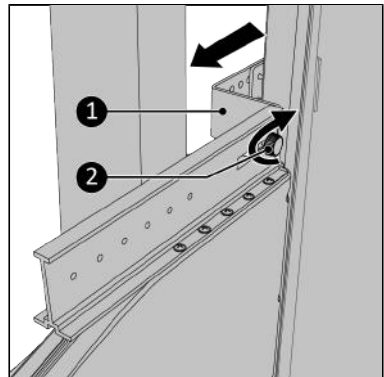

Figure 90.
- Pull the bracket as far towards you as possible (Figure 90, pos 1) so it clamps properly.
- Tighten the screw cap (Figure 90, pos. 2).